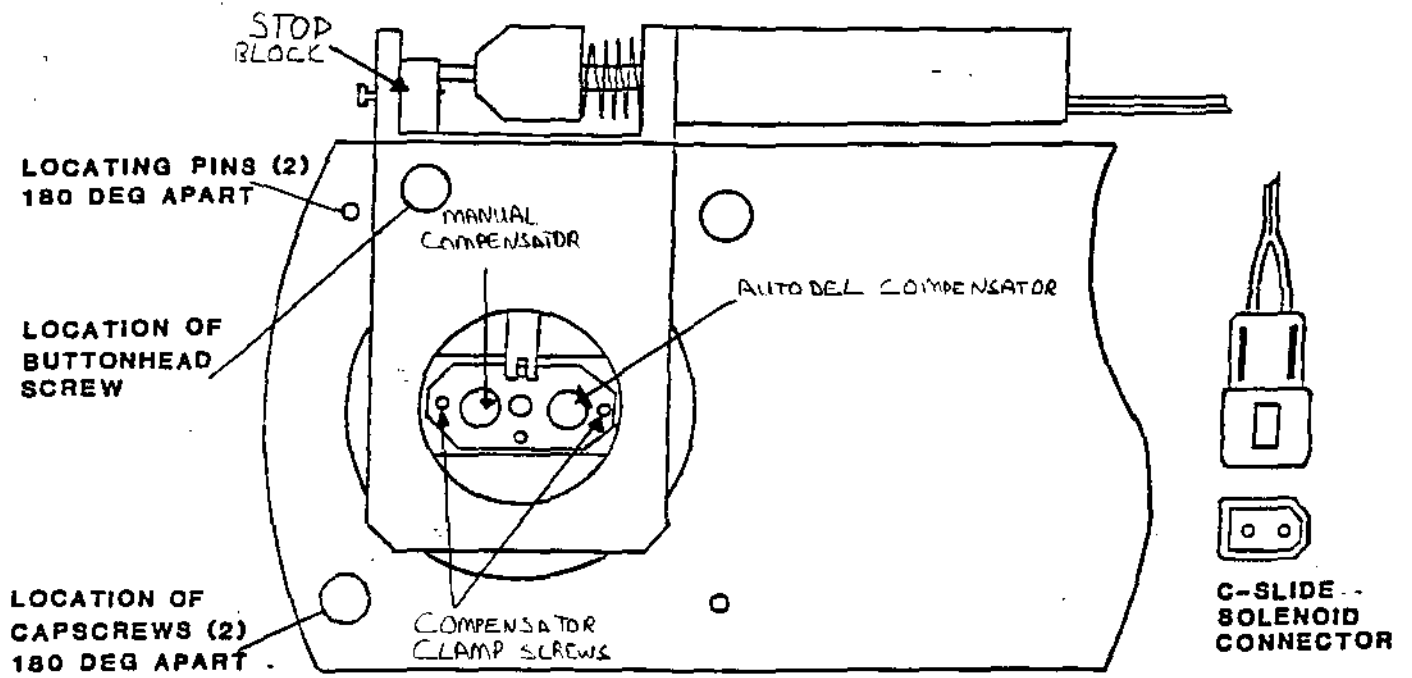

Figure 1. Automatic C-Slide Assembly
- B. Loosen clamp screw on the right as in figure 1, but do not remove.
- 2.1 Using a 5/32-inch hex key, remove two cap screws (PD, figure 1) that secure mounting plate and beam attenuator to polarizer mounting arm.
- 2.2 Using a 3/32-inch hex key, remove buttonhead screw (figure 1) and withdraw the C-Slide assembly.
- 3.2 Refer to figure 1 (front view). Apply a small drop of oil to the slot on top of pin.